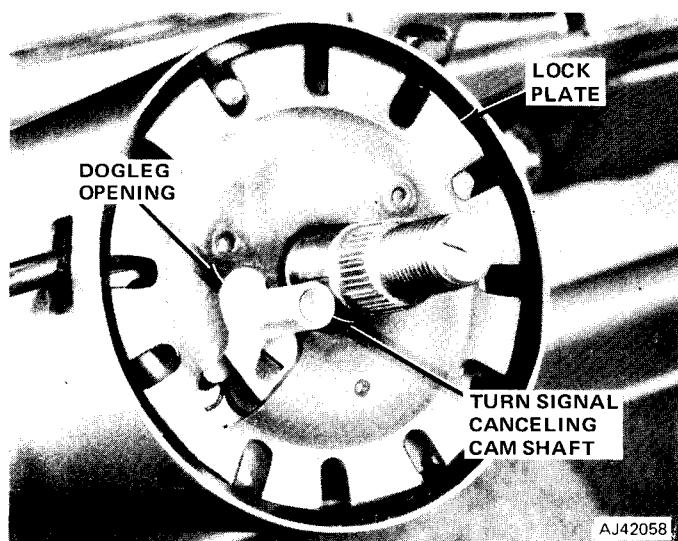

Fig. 11-36 Cancelling Cam and Lock Plate Position
(13) Install turn signal switch assembly. Guide wire harness into position and carefully align switch assembly.
(14) Untape turn signal switch wire harness connector, assemble wires in protector and protector-to-column jacket, and install switch retaining screws. Be sure actuating lever pivot is correctly aligned and seated in upper housing pivot boss before installing retaining screws.
(15) Install turn signal lever and actuate turn signal switch to check operation.
(16) Install steering shaft.
(17) Install thrust washer, spring, and canceling cam on upper end of steering shaft.
(18) Align lock plate splines with steering shaft splines and place lock plate in position, with canceling cam shaft protruding through dogleg opening in lock plate (fig. 11-36).